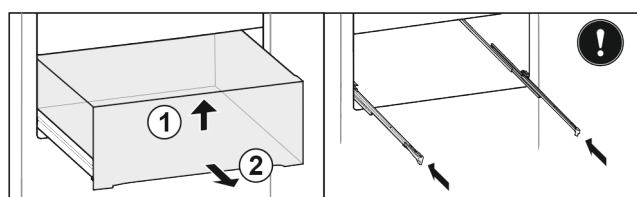

Fig. 27*
- ▶ Lift up the drawer at the front Fig. 27 (1).*
- ▶ Take out to the front Fig. 27 (2).*